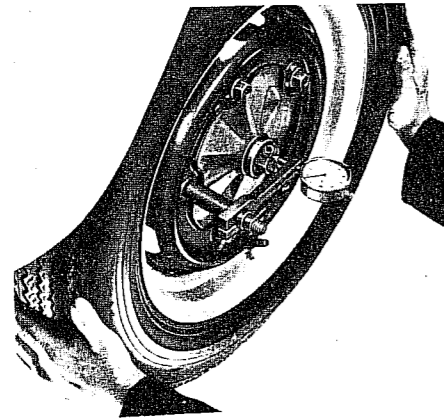

Fig. H.2. Checking the axial play at the front wheel bearing with a dial gauge.
6. Loosen the nut until the axial play is between 0.03 and 0.12 mm (0.001" - 0.005") (this is the distance shown on the gauge when the wheel is pushed in and out) (Fig. H 2).